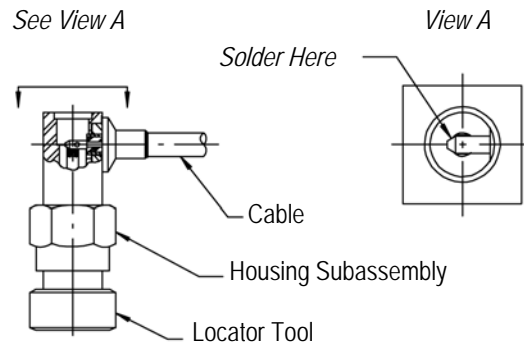

Figure 4
4. Secure the housing subassembly to the locator tool as shown in Figure 4. Secure the housing subassembly in a small bench vise.
5. Insert the bullet center contact into the housing subassembly, making sure that the bullet center contact sits in the contact slot. See Figure 4, View A. Place the soldering iron on the tip of the bullet center contact, and solder.